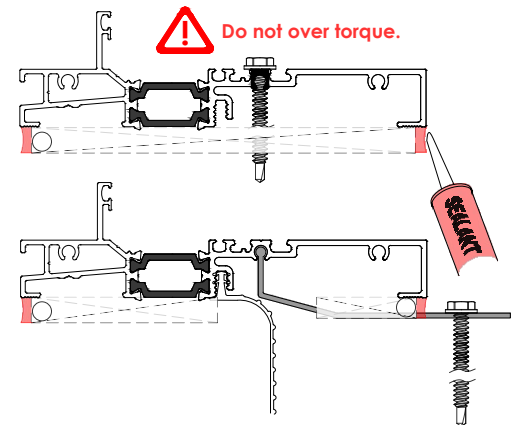

**FIG. 2**
- Drill clearance holes using V-groove as a guide. **See FIG 2.**